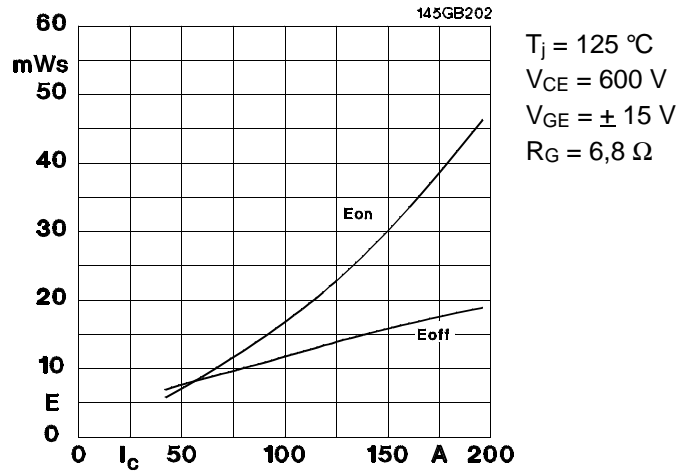

Fig. 2 Turn-on /-off energy  $= f(I_C)$
5) See fig. 2 + 3; RGoff = 6,8 Ω